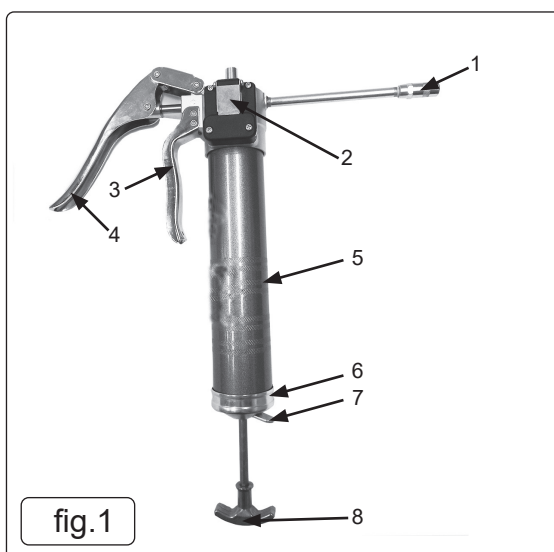

fig.1
4.1.1. Raise quick release mechanism cover (fig.1) and depress and hold the trigger.
4.3.2. Slowly pull back the plunger handle (fig.1) to pull the grease into the barrel. Lock the rod with the tab (fig.1).